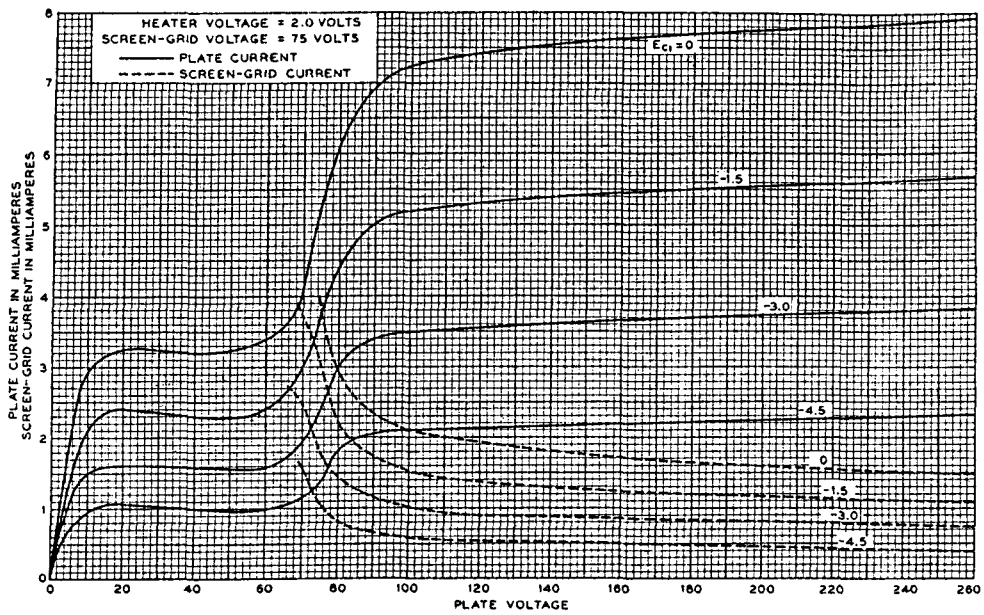
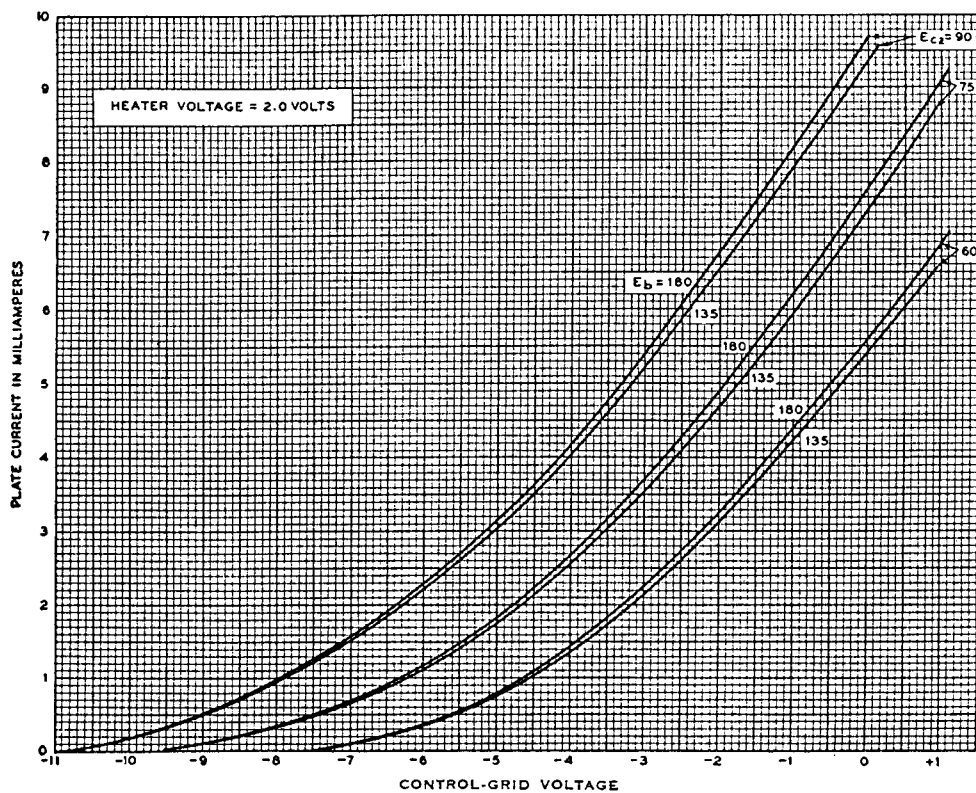
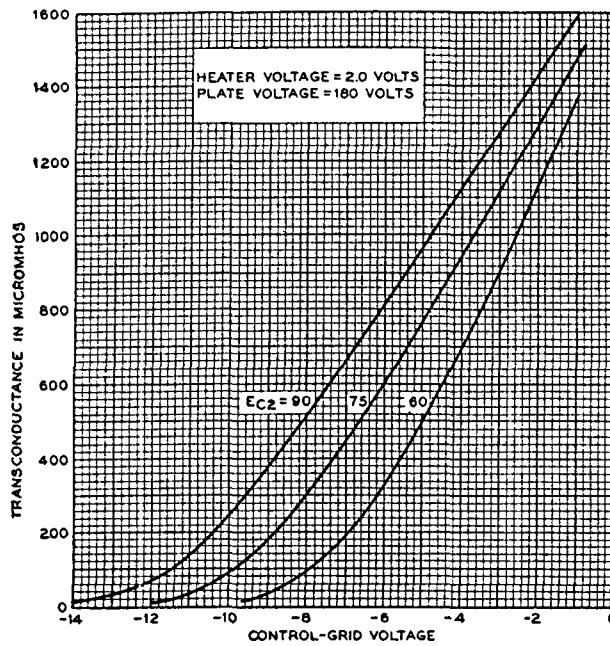
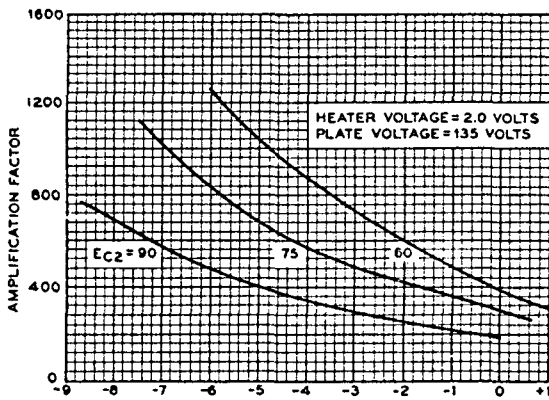

FIG. 3
FIG. 5
FIG. 7
FIG. 8
**Characteristics**—Plate current and screen-grid current characteristics of a typical 259A tube are given as functions of plate voltage in Figures 3 and 4 for screen-grid voltages of 75 and 90 volts, respectively. The same quantities are shown as functions of control-grid voltage in Figures 5 and 6. Transconductance characteristics for a plate voltage of 180 volts are shown in Figure 7. For other plate voltages between 135 and 250 volts, the transconductance of a typical tube for values higher than 100 micromhos does not differ by more than  $\pm 3\%$  from its value at 180 volts. The amplification factor and plate resistance characteristics corresponding to Figure 5 are given in Figures 8, 9, 10, and 11.